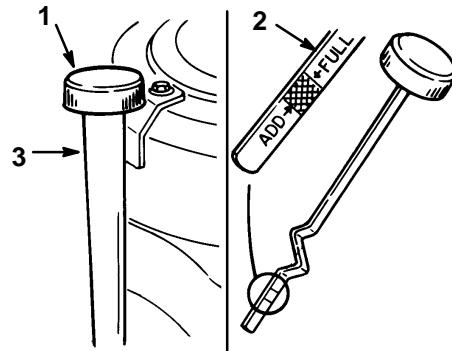

Figure 18
3. Clean around the oil dipstick (Fig. 18) so dirt cannot fall into the filler hole and damage the engine.
4. Unscrew the oil dipstick and wipe the metal end clean (Fig. 18).
5. Slide the oil dipstick fully into the filler tube, do not thread onto tube (Fig. 18). Pull the dipstick out and look at the metal end. If oil level is low, slowly pour only enough oil into the filler tube to raise the level to the "FULL" mark.
7. Slowly pour approximately 80% of the specified amount of oil into the filler tube (Fig. 18). Now check the oil level; refer to Checking Oil Level, page 20. Slowly add additional oil to bring to “FULL” mark on dipstick.